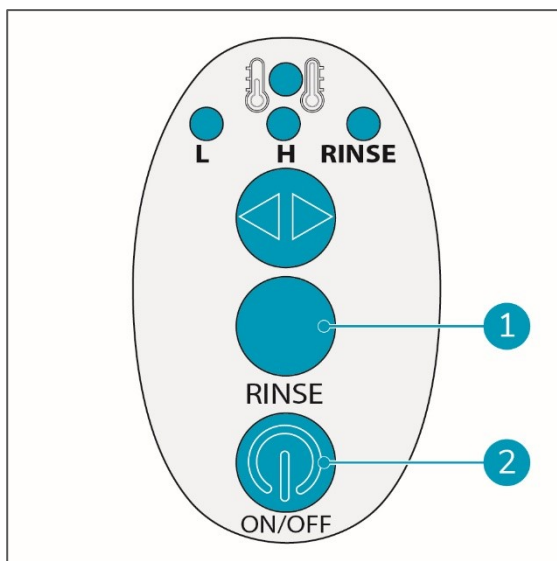

Figure 26
6. Press the ON/OFF button (fig 26, pos 2) on the handle control.
7. Press the RINSE button (fig 26, pos 1).
9. Release the RINSE button (fig 26, pos 1).
12. Turn off the machine via the ON/OFF button (fig 26, pos 2).